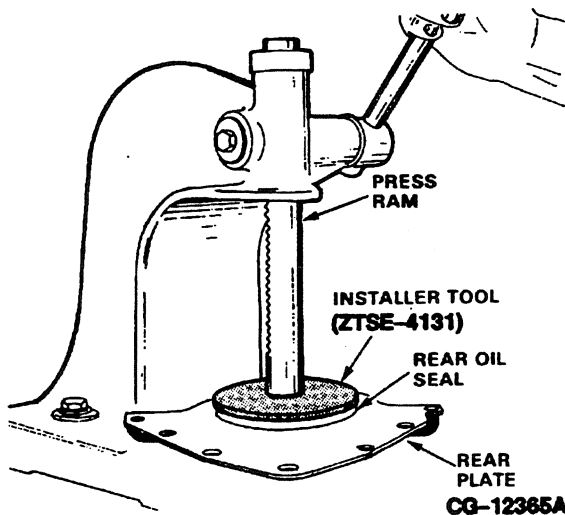

Figure 6.26. Pressing Rear Oil Seal into Rear Cover Bore Using Installer Tool (ZTSE-4131) and Arbor Press
- f. Place rear cover over blocks as shown in Figure 6.26 with press ram on installing tool. Press oil seal into rear cover bore until tool bottoms on plate.